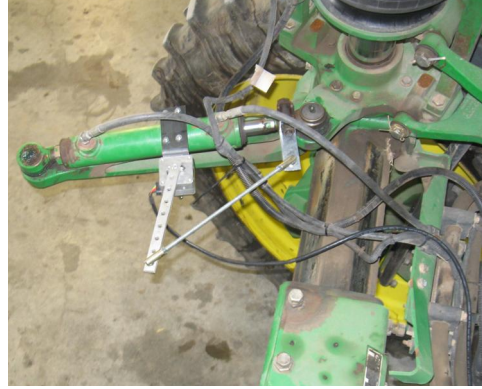

Figure 2f-ii: Full right lock
- g. When the linkage does move freely and without binding, tighten hardware **WH** on the rod and the swivels (Figure 2f-i).